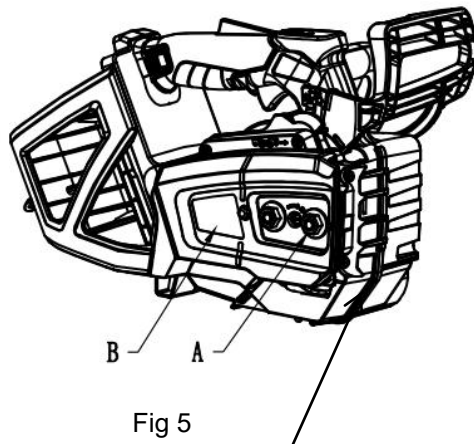

Fig 5
1. Loosen the two Sprocket cover nuts (A) (Fig 5).
2. Remove the Sprocket cover(B) (Fig 5).